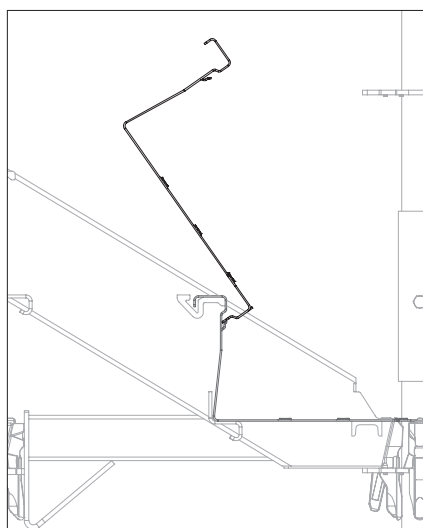
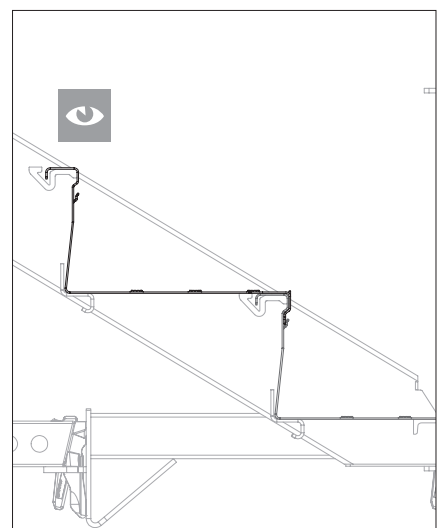

Fig. A4.04
Fig. A4.04a
4. Move the step forwards and place it in the stair stringer supports. (Fig. A4.04 + Fig. A4.04a)